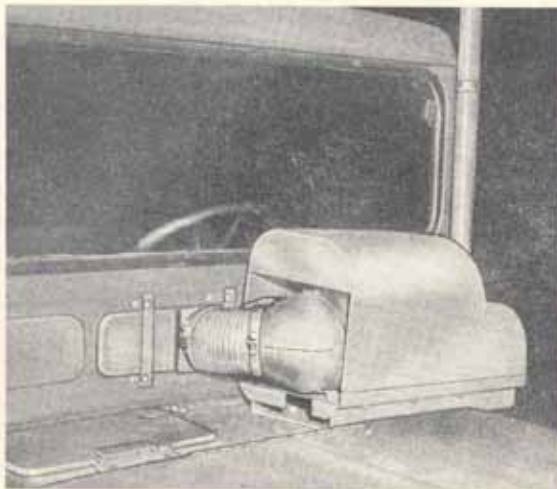

Figure 1
2. Place the bottom section of the heater box on the cowling in front of the windshield with the exhaust tube toward the left. Locate the assembly so that the front edge is $\frac{7}{8}$ inch to the rear of the hood and the end is $7\frac{1}{2}$ inches to the left of the battery box lid (see Figure 1). With the bottom of the box in this position, mark through the four mounting screw holes in the plate.
6. Remove the cover of the ventilating louver in the center of the windshield panel. Discard the cover and install the cover supplied with the heater kit in its place as shown in Figure 1. Secure the new cover using the same screws which were removed from the discarded cover.
- Fit the exhaust tube into the elbow and secure it to the windshield with the two clamps and $1/4$ -20 x $1 1/2$ screws, lockwashers and nuts provided (Figures 1 and 3).
7. Install the short section of 4-inch ducting between the outlet adapter of the heater and the inlet adapter of the heat distributor assembly (Figure 1).